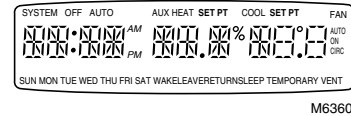

Fig. 29. All segments on display.
1. Hold the PC8900A CHECK key until all display segments are displayed (approximately three seconds). See Fig. 29.